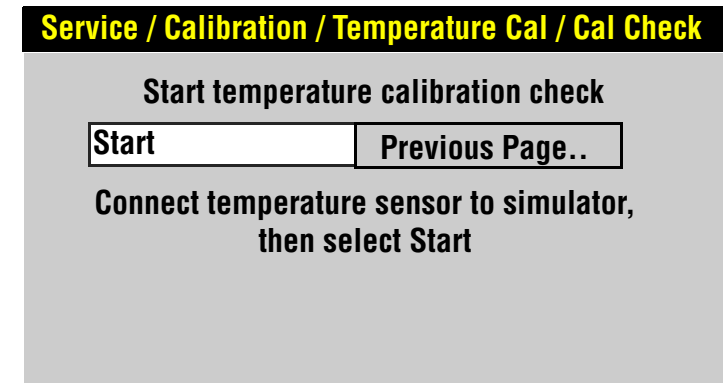

Figure 5.15—Starting calibration check
5. To initiate Temperature Calibration Check, select Cal Check from the Service / Calibration / Temperature Cal menu. The screen shown in Figure 5.15 appears.
6. Connect the temperature sensor to the device and select the Start button. The screen shown in Figure 5.15 appears.